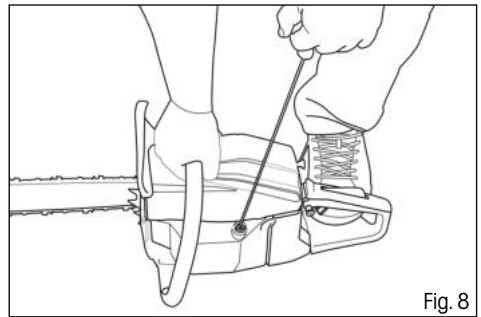

Fig. 8
3. Place the chain saw flat on the ground so that it is stable and pull on the handle of the starting cord until the engine rotates (the engine will show signs of attempting to start) (Fig. 8).
2. Pull on the handle of the starting cord until the engine starts up (Fig. 8)